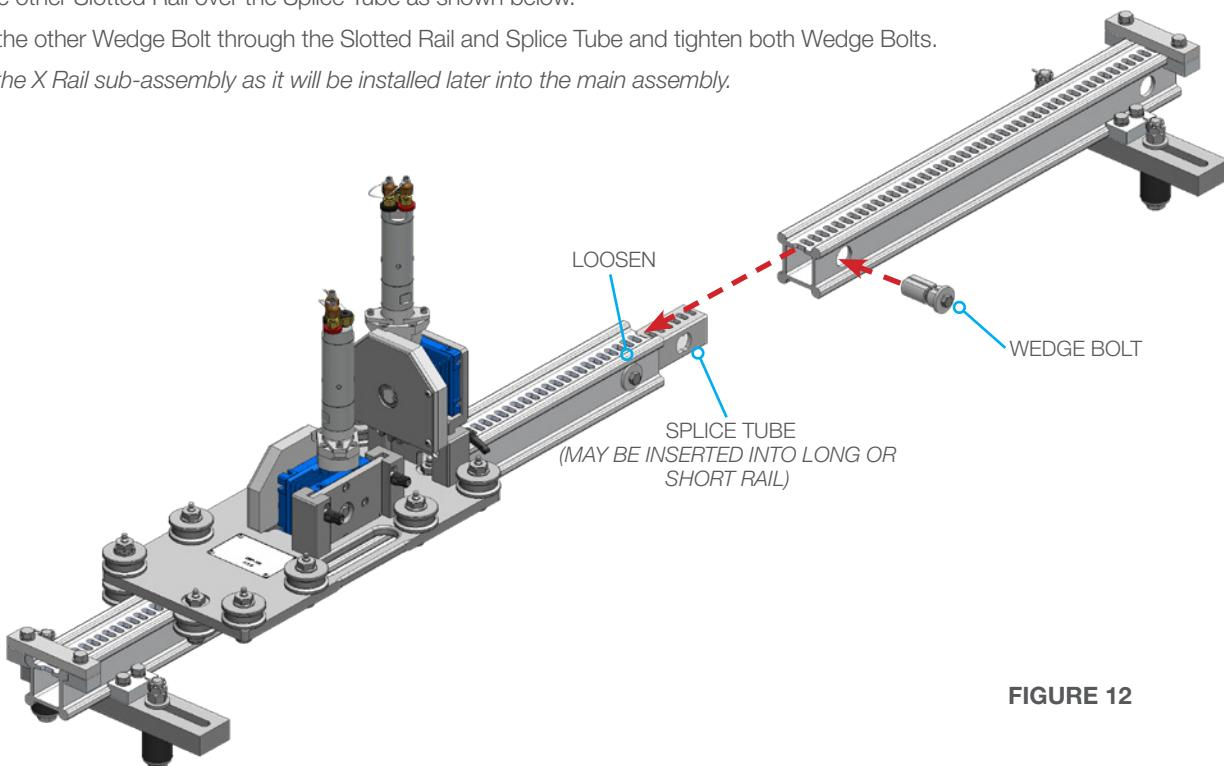

FIGURE 12
4. Using a 1/2" open end or ratchet style wrench, loosen the Wedge Bolt that runs through the Slotted Rail and Splice Tube. (**Figure 12**)